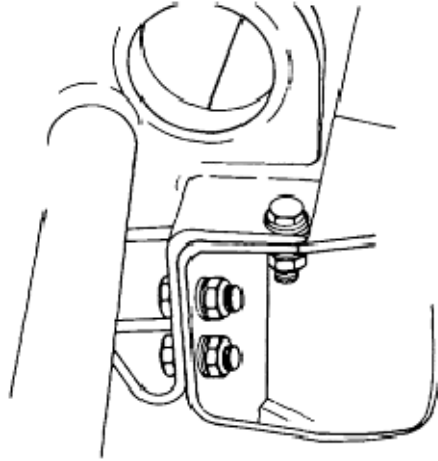

Figure 175 Bumper Brushguard Removal
- a. Loosen the twelve nuts, lock-washers and bolts securing the bumper to the chassis frame (Figure 175).